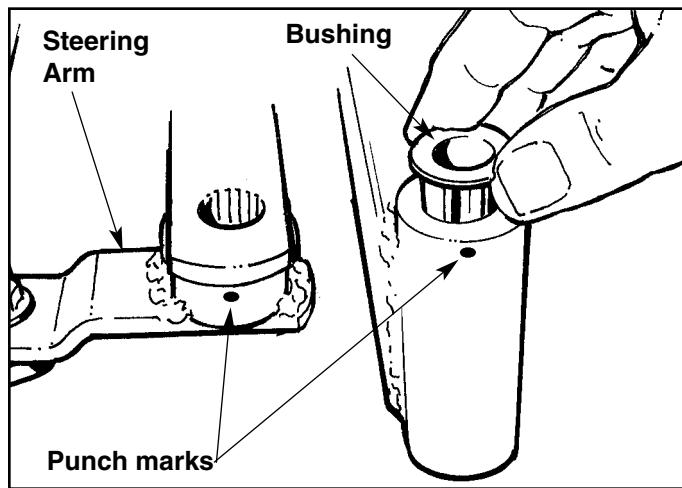

Figure A-10. Remove Spindle Shaft Bushings
*NOTE: It will be helpful to mark the relative positions of the steering arm, splined spindle shaft, and shaft housing with punch marks to simplify realignment later (See Figure A-10).*
- With the spindle shaft removed, the bushings can be removed and inspected for signs of wear (Figure A-10). Use a brass drift or punch to tap out the bushings from opposite ends of the housing. Replace the bushings if worn, scored, or cracked.